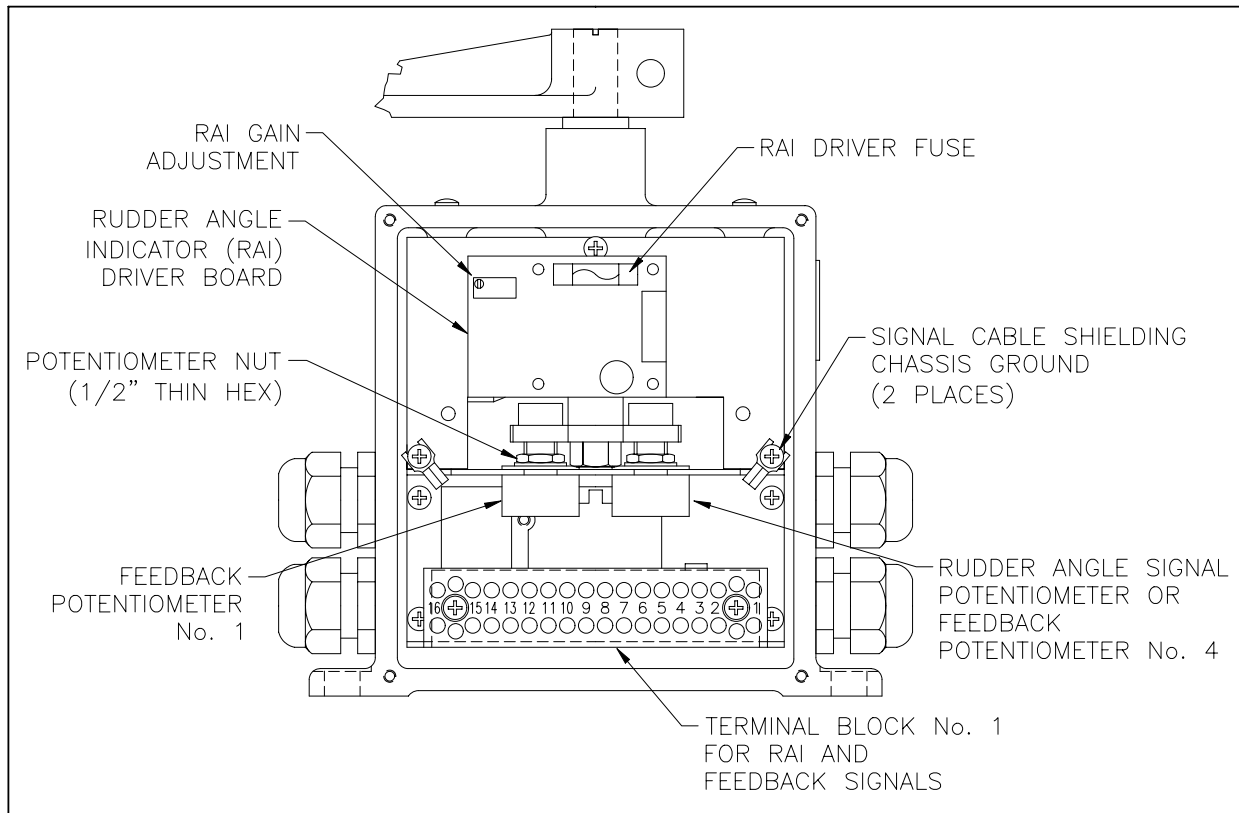

Figure 4 – RFU Internal Configuration – RAI and Feedback Side
Some adjustments to the RFU are made at the trimmer potentiometers (trim pots) located on the rudder angle indicator driver circuit board. All bold type names in this section refer to particular trim pots. Each trim pot can be located by reading the labels on the RFU's circuit board or by referring to Figure 4.
- h) While holding the pot body and keeping the pot gear fully engaged with the main gear, loosen the appropriate feedback pot nut until the pot body can just turn (see Fig. 4).